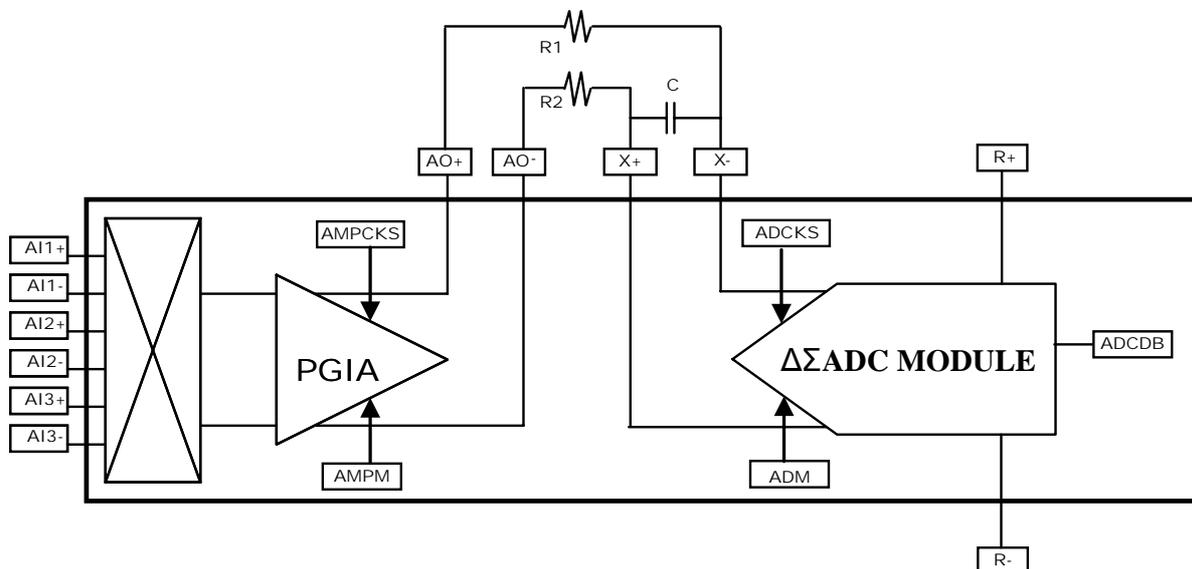

Figure 13-1 Block Diagram of ADC module
Figure 13-1 illustrates a block diagram of the PGIA and ADC module. The front end consists of a multiplexer for input channel selection, a PGIA (Programmable Gain Instrumentation Amplifier), and the  $\Delta \Sigma$  ADC modulator.
- **Note 1:** In figure 13-1, the low pass filter (R1, R2 and C) will filter out chopper frequency of PGIA.